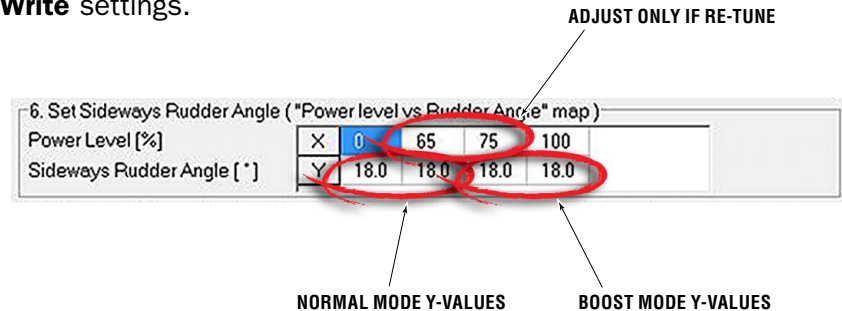

Figure B-12. Power Level vs Rudder Angle.
If you adjusted the power levels in STEP 8 and are now performing a re-tune, adjust the X-values in the table as follows (see figure B-12):
- If the boat rotates clockwise as it starts to move, decrease both *normal mode Y-values* (see figure B-12) by up to two units. If the boat rotates counterclockwise, increase the values.